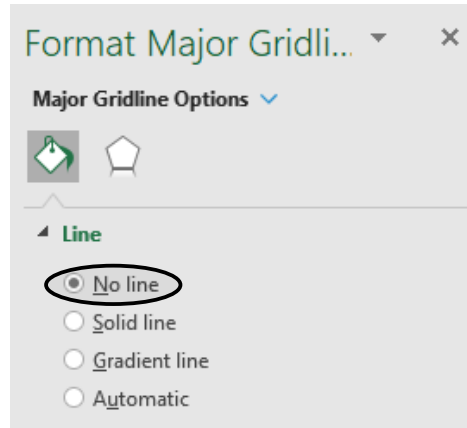

Figure 17: **Format Major Gridlines** toolbar with **Line** drop-down menu open with **No line** option circled
**Right-click** on either axis then select **Format Major Gridlines**. In the **Line** drop-down menu, select **No Line**. Then either right-click on the other axis to repeat this process or click the top dropdown menu in the toolbar and select the other axis's **Major Gridlines Options** as seen in Figure 17.